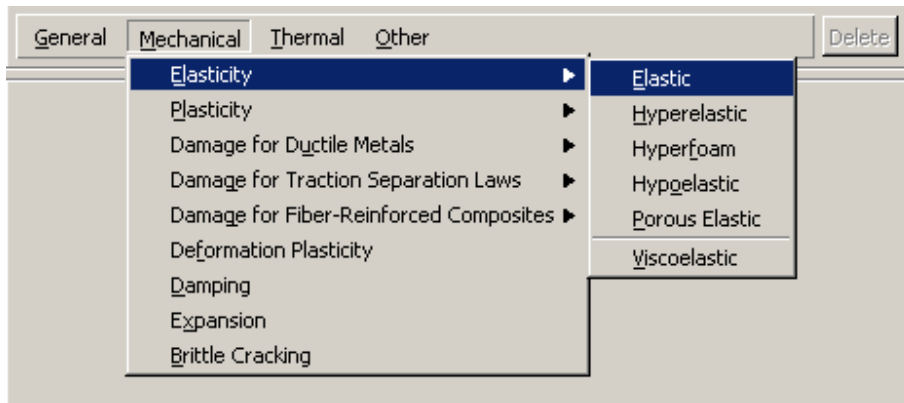

Figure W1–8 Pull–down menu.
- From the material editor's menu bar, select **Mechanical**→**Elasticity**→**Elastic**, as shown in Figure W1–8.